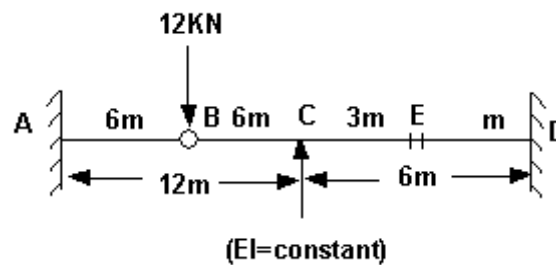

Figure 4:
7. Analyse the two-span continuous beam loaded as shown in Figure 4 if the beam has an internal hinge at B. Use Flexibility method by making a cut at E. Obtain the support moments and reactions. Sketch the B.M.D [16]